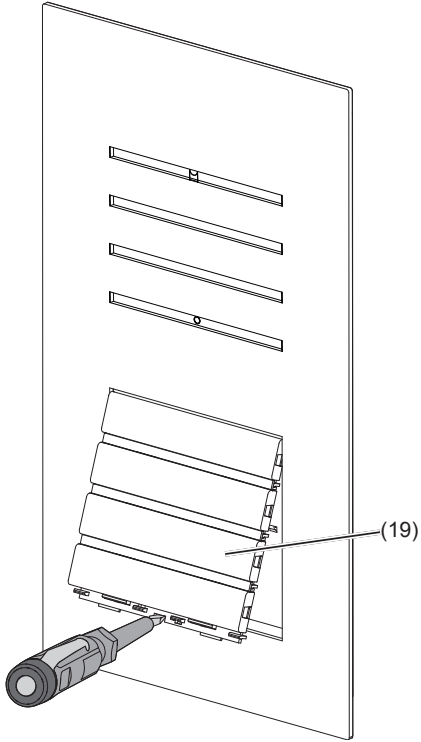

Figure 14: Dismantling the call push-button module cover
- Press up the call push-button module upper part in the bottom lever opening with the screwdriver and guide it forwards (Figure 14).